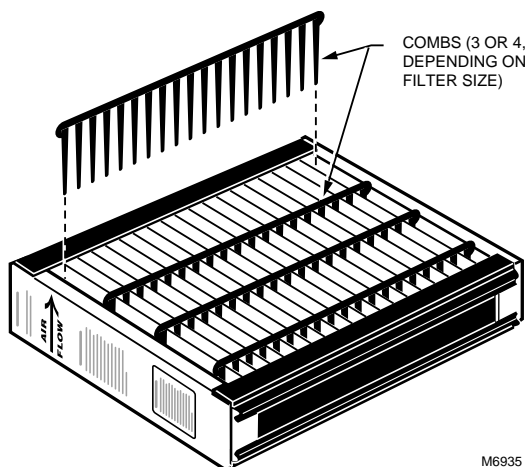

Fig.15. Insert combs in media filter.
5. Lay the filter assembly down flat so the arrows point up. Insert the combs as shown in Fig.15, aligning them with the notches in the end panel flanges. Make sure the combs are inserted completely.
4. Insert one end panel tab into the retainers on the frame. Fold in the end panel flanges and push the tab completely in, making sure the end panel flanges are inside the frame flanges. See Fig. 15.